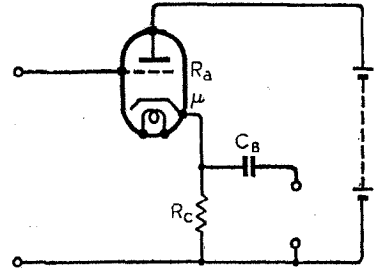

Fig. 3. Cathode follower whose gain is always less than 1.
one or two textual errors are present in some of them (in the captions of Fig. 3, p. 10 and Fig. 37, p. 116, for example).
with only a small error. It should be noted that this value of β for current feedback may only be applied to the calculation of gain, and may not be used indiscriminately in other voltage feedback formulae. In the case of the cathode follower (gain always less than 1) the gain may be found by calculating as if R_C were the anode load, and modifying by (4) taking $-\beta = 1$. A cathode follower stage is shown in Fig. 3.